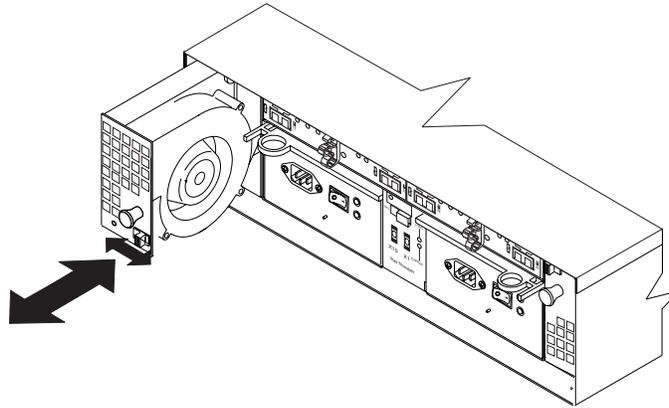

Figure 48. Replacing a hot-swap cooling fan
- b. Use the handle (black knob) to pull the fan from the fan bay, as shown in Figure 48 on page 98.